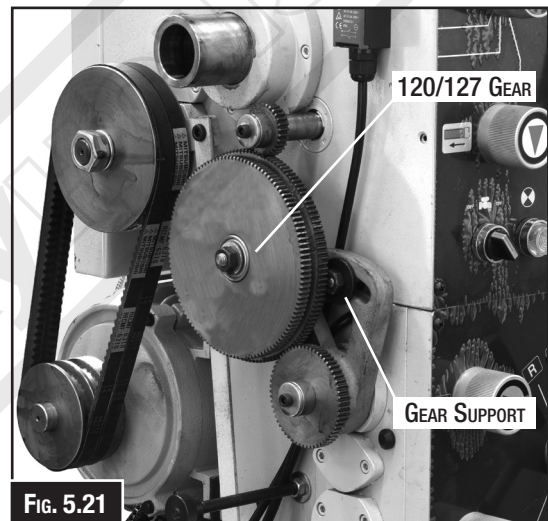

FIG. 5.21
4. While holding the 120T/127T gears, loosen the arm by undoing the gear support hex nut and slowly let the gears pivot down and away from the upper top gear, as illustrated. (Fig. 5.21)
5. Loosen the 120T/127T gear hex nut and slide the middle gear away from the bottom gear. The 120T/127T gears many need to be reversed. Undo the 120T/127T gear hex nut (Fig. 5.21) and reverse the gears.